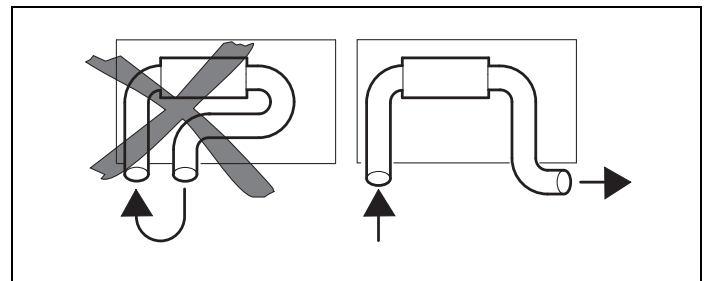

Fig. 6: Cold air inlet and hot air outlet
- for air short-circuit between the cold air inlet and hot air outlet of the heater (Fig. 6).